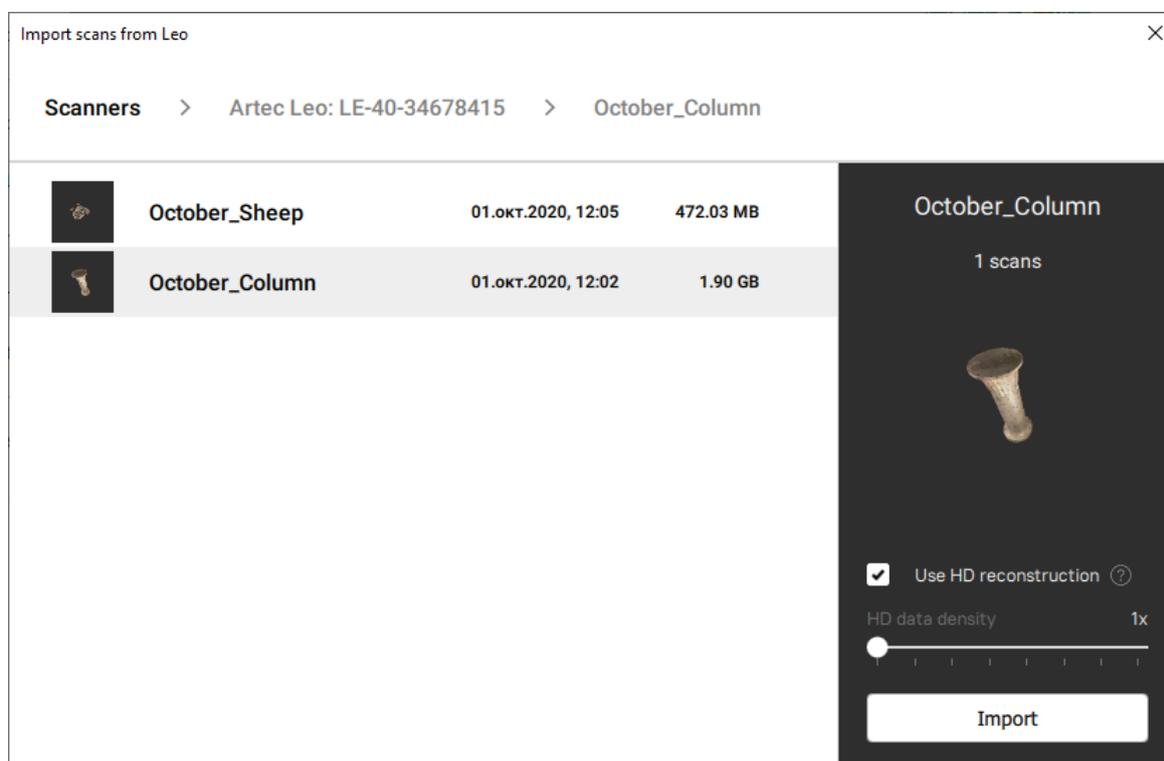

Figure 68: Dialog for selecting Leo projects to import.
5. Then using either LMB or ↑ and ↓ select the project that you want to load (Figure 68)